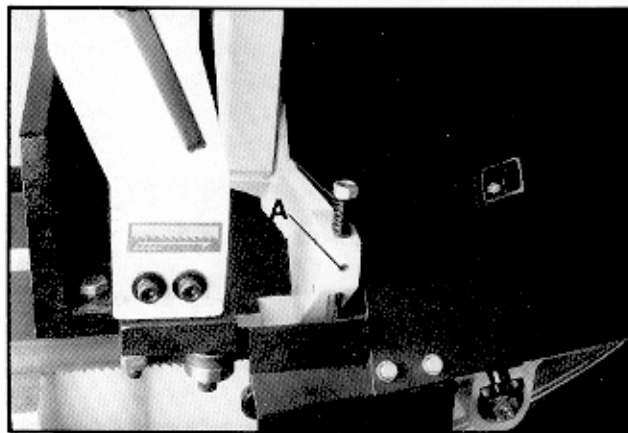

Fig. 6
4. Loosen set screw (A, Fig. 6) and lower the blade cleaning brush,